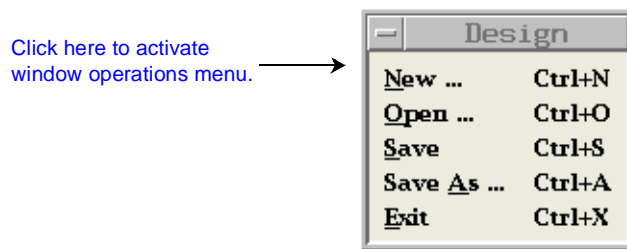

Figure B-8. A Torn-Off Menu
2. **Drag the menu to a new location.** The torn-off menu becomes a window. Figure B-8 shows a torn-off menu in the MOTIF environment.